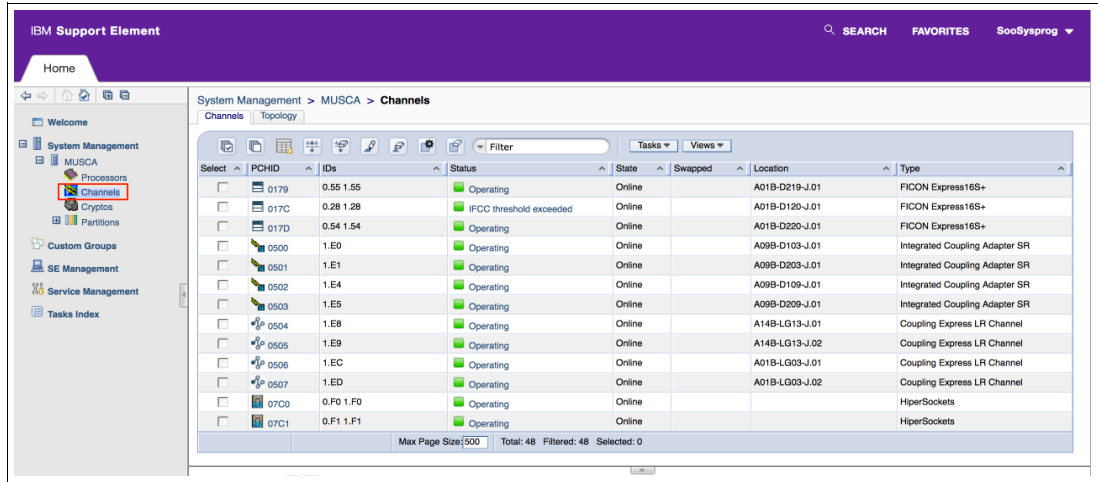

Figure 9-8 SE Systems Management and channels
- b. On the SE, select the same CEC and click **Channels**, as shown in Figure 9-8.